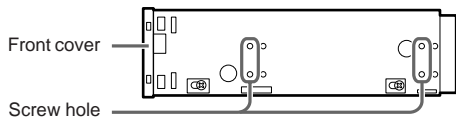

Fig. 1
- When using the rails with this device, use the screw holes in the front cover illustrated in Fig. 1 (see Fig. 2). (Perform the same operation on the opposite side. Secure two screws on each side, four screws total.)